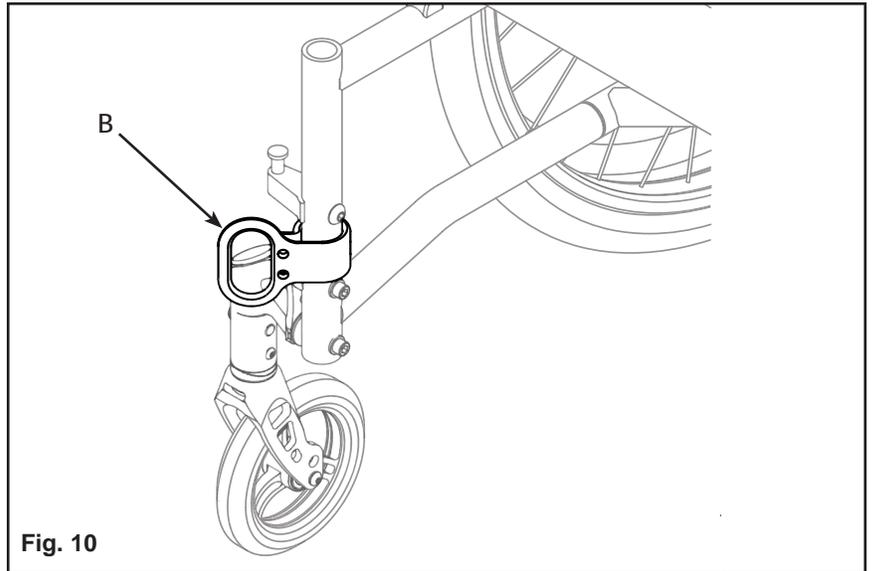

Fig. 10
11) Slide the Transit Bracket Loop (B) onto the Transit Bracket Clamp (Fig.10) (as in step 3).